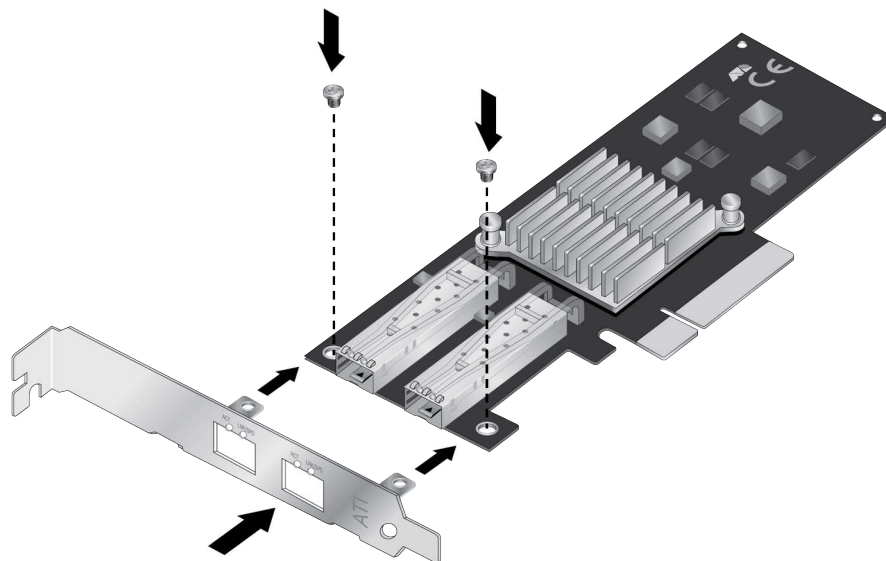

Figure 6. Installing the Standard Bracket
2. Align the tabs of the standard bracket with the holes on the network interface card and fasten the screws onto the card. See Figure 6 on page 26.